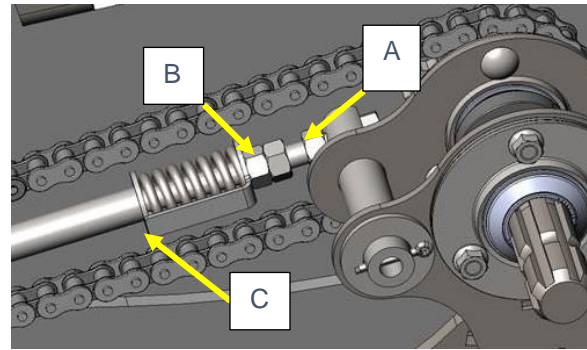

Figure 79
7. To adjust the chain, loosen the locknut (A) on the adjustment rod. Figure 79
8. Turn the adjustment nut (B) until the tension indicator is flush with the washer at the end of the spring.